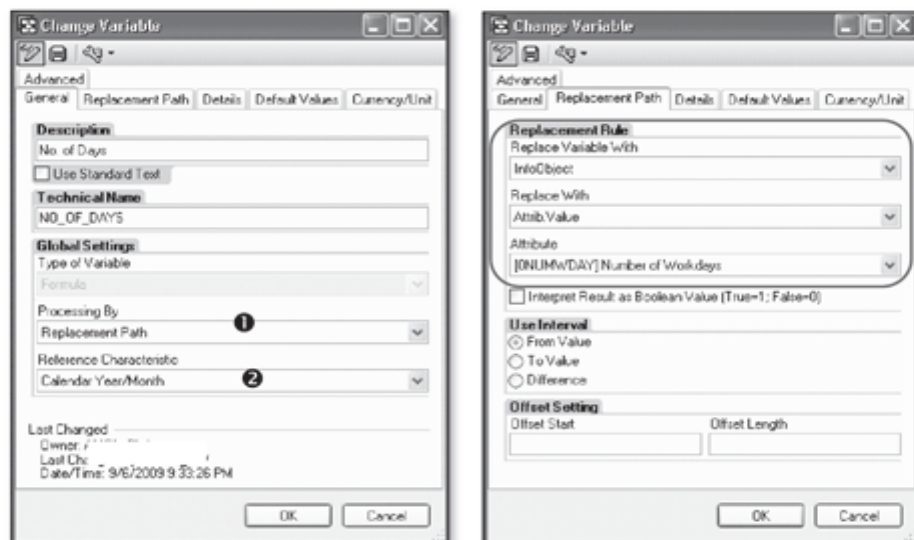

Figure 9.35 Define the Formula Variable
For example, you want to create a formula variable that should return the total number of days for the selected calendar month. To achieve this, you have to set the processing type of the formula variable as replacement path (❶ of Figure 9.35) and the reference characteristic as calendar year/month (❷).
The details for this variable are maintained on the Replacement Path tab. Maintain the settings as shown in Figure 9.35.